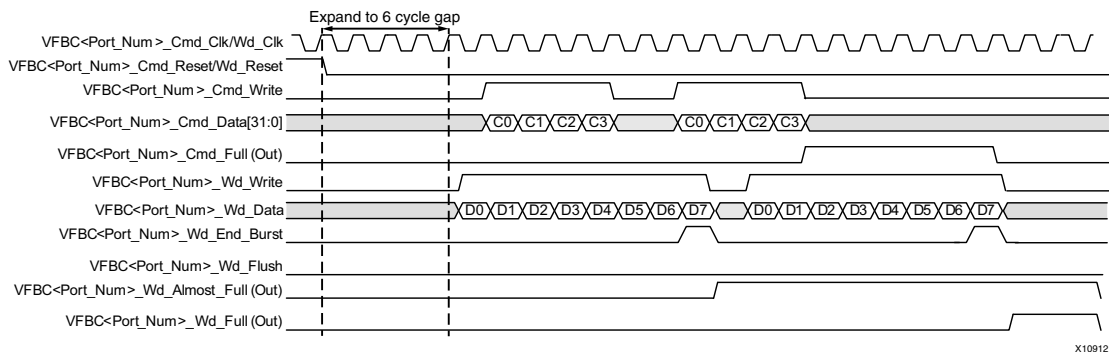

Figure 40: VFBC Write Timing
- The VFBC<Port\_Num>\_Wd\_End\_Burst signal is used only when the transfer is not a multiple of the burst size. If the transfer ends on a boundary that is not 32-word aligned, this signal must be asserted High during the last word transferred. Figure 40 shows a typical VFBC Write operation and provides an example of VFBC Write Timing. The actions of the Write data interface are enumerated below Figure 40.
- As shown in Figure 40, the command words C0, C1, C2, and C3 are being written during a data Write. The command words can be written before, during, or after the data is written.
- Figure 40 also shows one cycle between VFBC<Port\_Num>\_Wd\_End\_Burst and the next burst, although zero to any number of cycles can exist between burst end and the next burst. The number of cycles between bursts is controlled by the VFBC<Port\_Num>\_Wd\_Write signal. This is the FIFO data push signal asserted by the VFBC client.